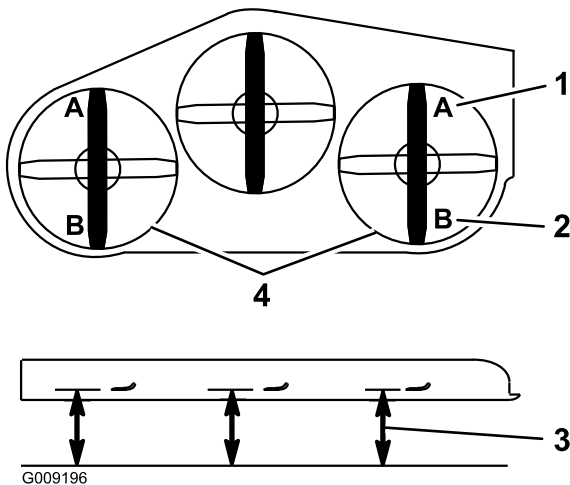

Figure 85
9. On both sides of the deck, measure from the level surface to the front tip of the blade (Position A). The measurement should read 7.6 mm (3 inches) (Figure 85).
15. On both sides of the deck, measure from the level surface to the back tip of the blade (Position B). The measurement should read 8.3 cm (3 1/4 inches) (Figure 85).